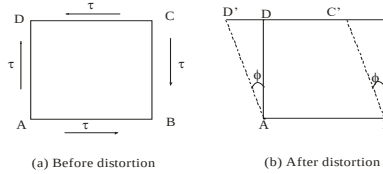

Fig. 1.5
**Shear Strain:** It is a measure of the angle through which a body is deformed by the applied load. Let a rectangular block ABCD, fixed at bottom is distorted through an angle  $\phi$  by the externally applied tangential load P to face CD as in Fig. 1.5. The face CD moves to new position C'D'. Let the movement of end C is very small.